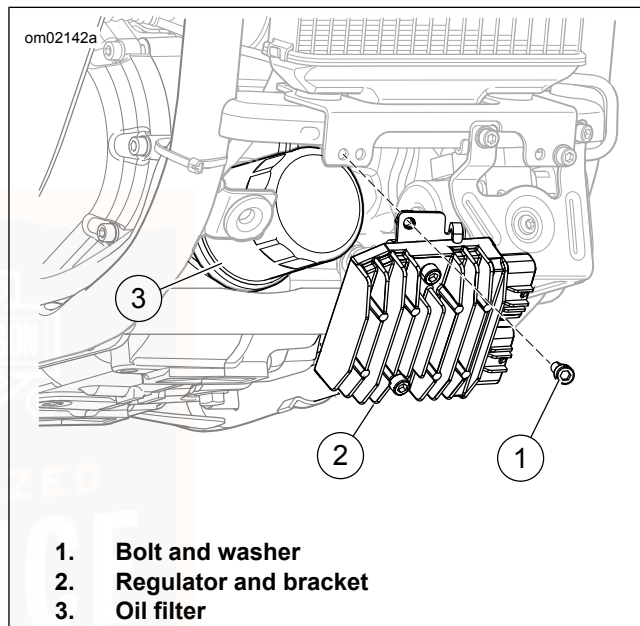

Figure 31. Engine Oil Filter and Regulator
6. See Figure 31. Remove the regulator bolt and washer (1). Support the regulator as necessary.
7. Remove the oil filter (3) with.